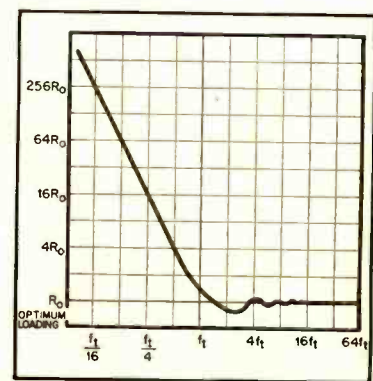

Fig. 9. Variation with frequency of resistive component of air loading on diaphragm, using the force-current analogy.
Figure 9 shows the variation of R_m with frequency on the assumption that R_m is entirely due to the air loading on the cone. (In different speakers, the contribution of R_{mn} will flatten the actual rise of the curve to various degrees.) The "turnover" frequency, f_t , will vary from about 520 cps for a 15-in. speaker to about 1,660 cps for a 5-in. speaker. It can be seen that loudspeaker response will drop off about 6 db per octave below this frequency if an effective constant voltage is applied across Z_m (since the power output will then be inversely proportional to R_m). But the ordinary amplifier, with considerable output resistance adding its effect to that of the voice-coil, will drive a speaker in such a manner that there will not, in general, be such a low-frequency attenuation. The reason is that the reactive part of the motional impedance, as at (C) of Fig. 2 "looks" above resonance, like a capacitance shunting the load. Together with output resistance and voice-coil resistance it forms a power-eating tone control circuit that flattens out the response be-